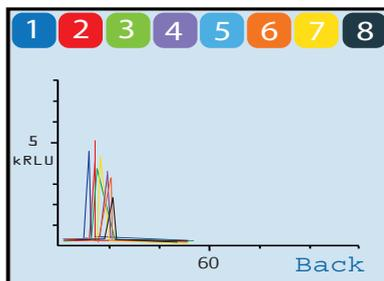
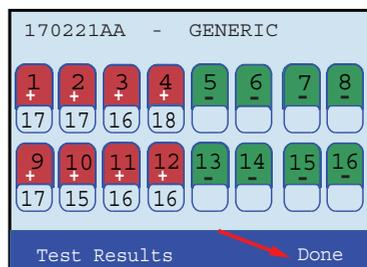

Fig. 11
Fig. 12
Activate the **Graph** command. The graphical display will appear. A row of color coded numbers can be seen above the graphs (Fig 11). The numbers and colors correspond to the activated sample wells. Return to the numbered tab screen by activating **Back** (lower right side of the screen). Positive reactions will be seen on the graph screen as the reaction progresses at any time point of the run. If a reaction is positive, the numbered rectangles will change to red and the time at which the reaction was at its maximum (Time to Peak) will be noted under the positive sign. A negative reaction will be green (Fig 12).
3.9 Once the reaction is complete activate **Done** on the lower right side of the screen (Fig12). The Reader will turn off automatically if not in use for 15 minutes.
The results can be viewed in two formats, numerical tab (Fig 12) or graphical histogram (Fig 11). It is highly recommended that the user become familiar with the formats and make a point of examining both. It is particularly important to differentiate between background noise and true positive results. Poorly prepared samples containing inhibitors will result in unstable readings and potential false positives or negatives.